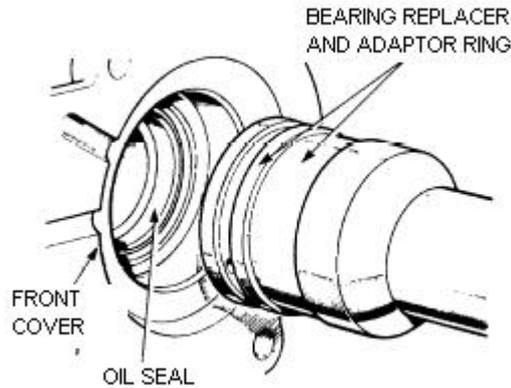

Figure 174 Installing the Front Cover Oil Seal
- kk.** Using the bearing replacer and adaptor ring (Table 3, Serial 45 and 46), press in the oil seal plain face first into the front cover (Figure 174).